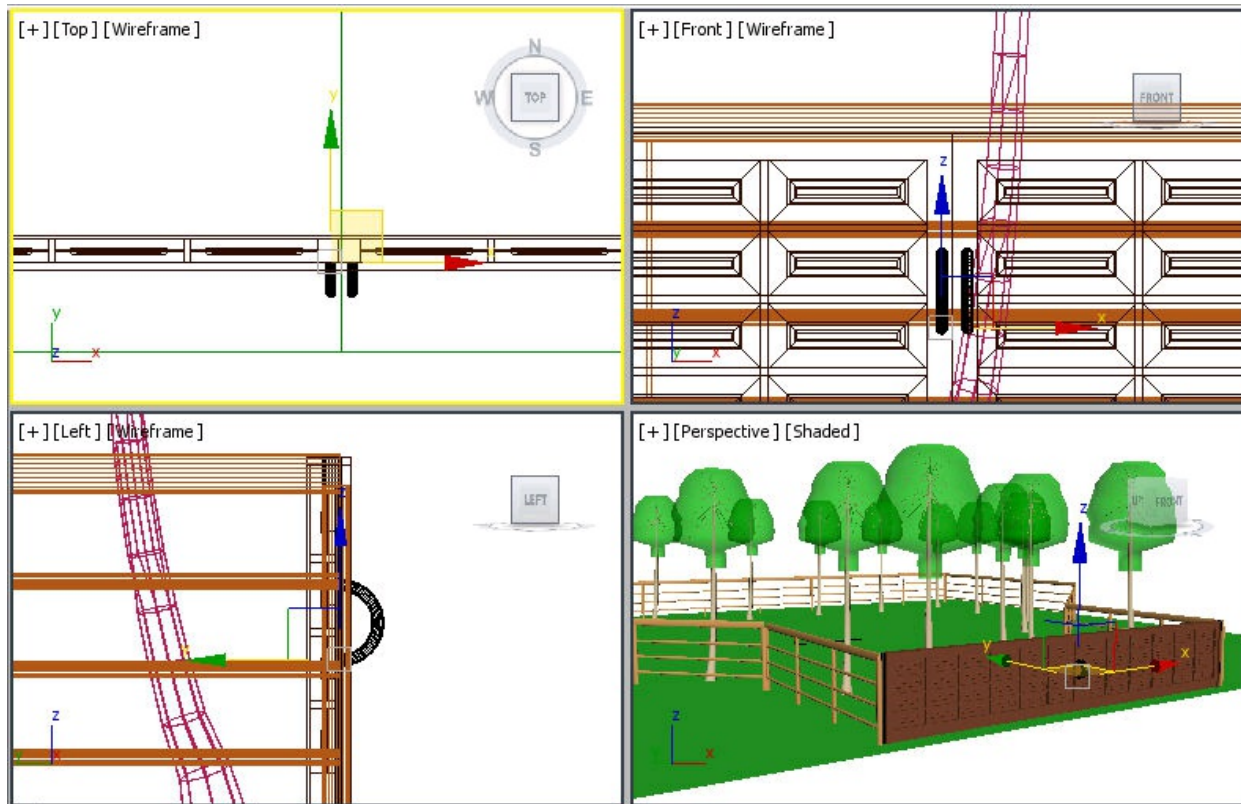

Figure 4-69 The copy of handle1 aligned
22. Activate the Front viewport and create a copy of *handle1* and align it, as shown in Figure 4-69.